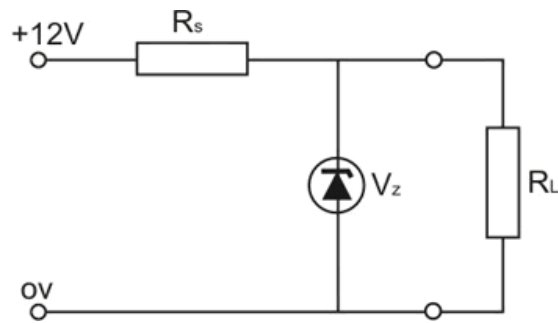

Figure 9. Shunt zener regulator
1. The zener regulator shown in Figure 9 has a fault. From the following measurements determine the likely fault. Explain your answer.